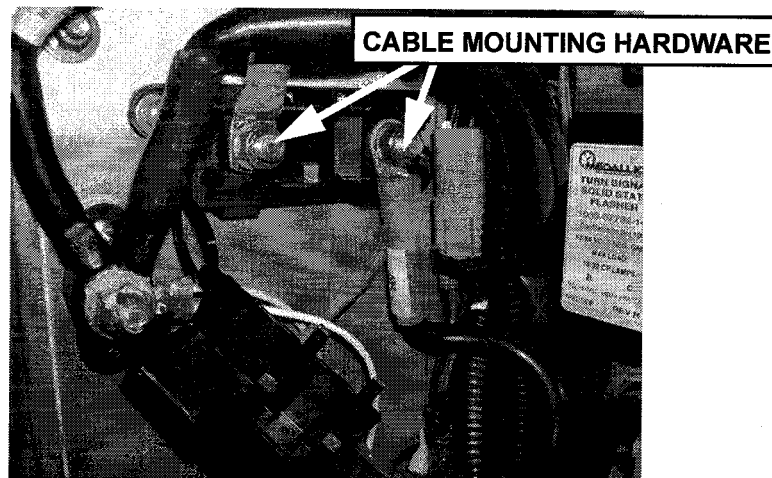

Figure 1-3 Cable Mounting Hardware
2. Remove the cable mounting hardware. See **Figure 1-3**